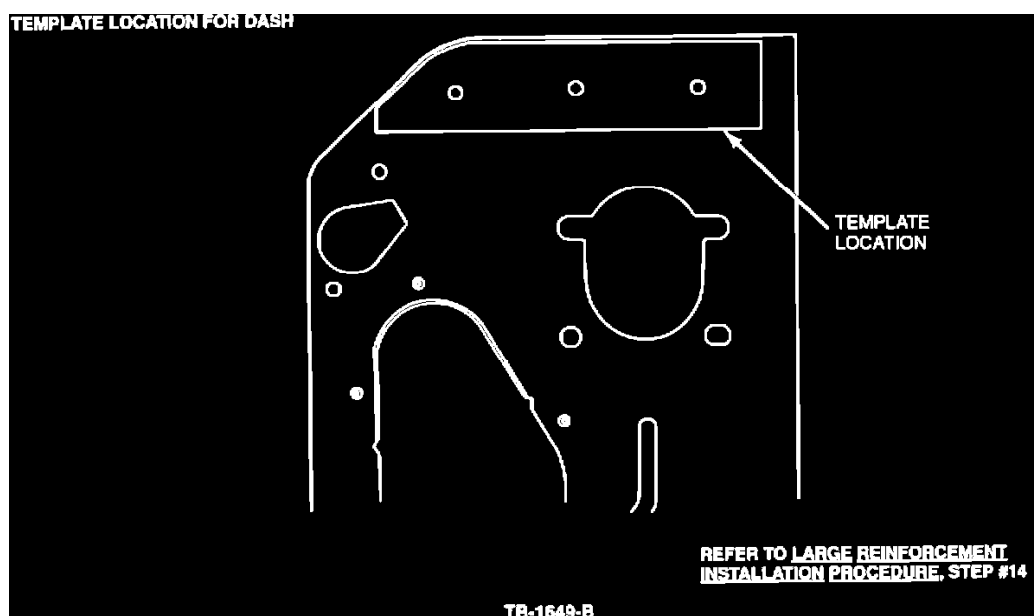

Figure 9
- a. Center punch and drill three 3/8" (9.5 mm) holes into the dash reinforcement and through the cowl, from the engine compartment side, Figure 9.